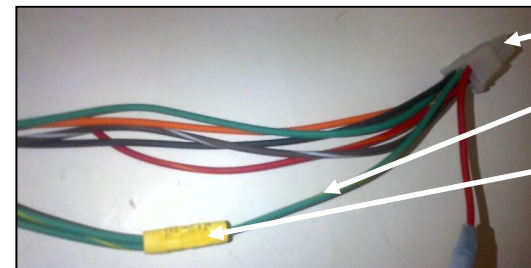

Figure 6
5. Locate the green and yellow striped wire on the J4 Connector Pin # 3 (speed signal). Cut the green and yellow striped wire about 6" down from the connector and connect green and yellow striped wire from digital speed sensor box to green and yellow striped wire going to the APU main unit with butt connector. (2 green and yellow striped wires connected together on one end). Connect the other end to the single green and yellow striped wire going to the power module J4 Connector Pin # 3 (speed signal). (Figure 6)